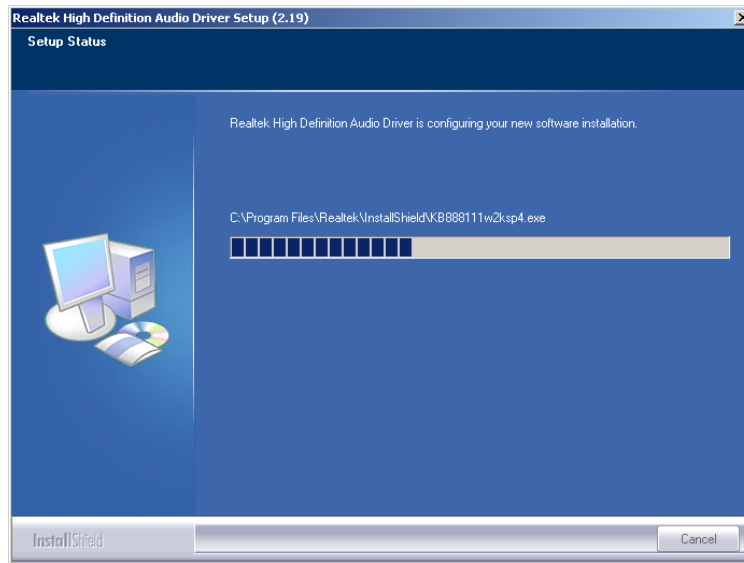

Figure 7-18: Audio Driver Software Configuration
Step 8: InstallShield starts to install the new software as shown in **Figure 7-18**.